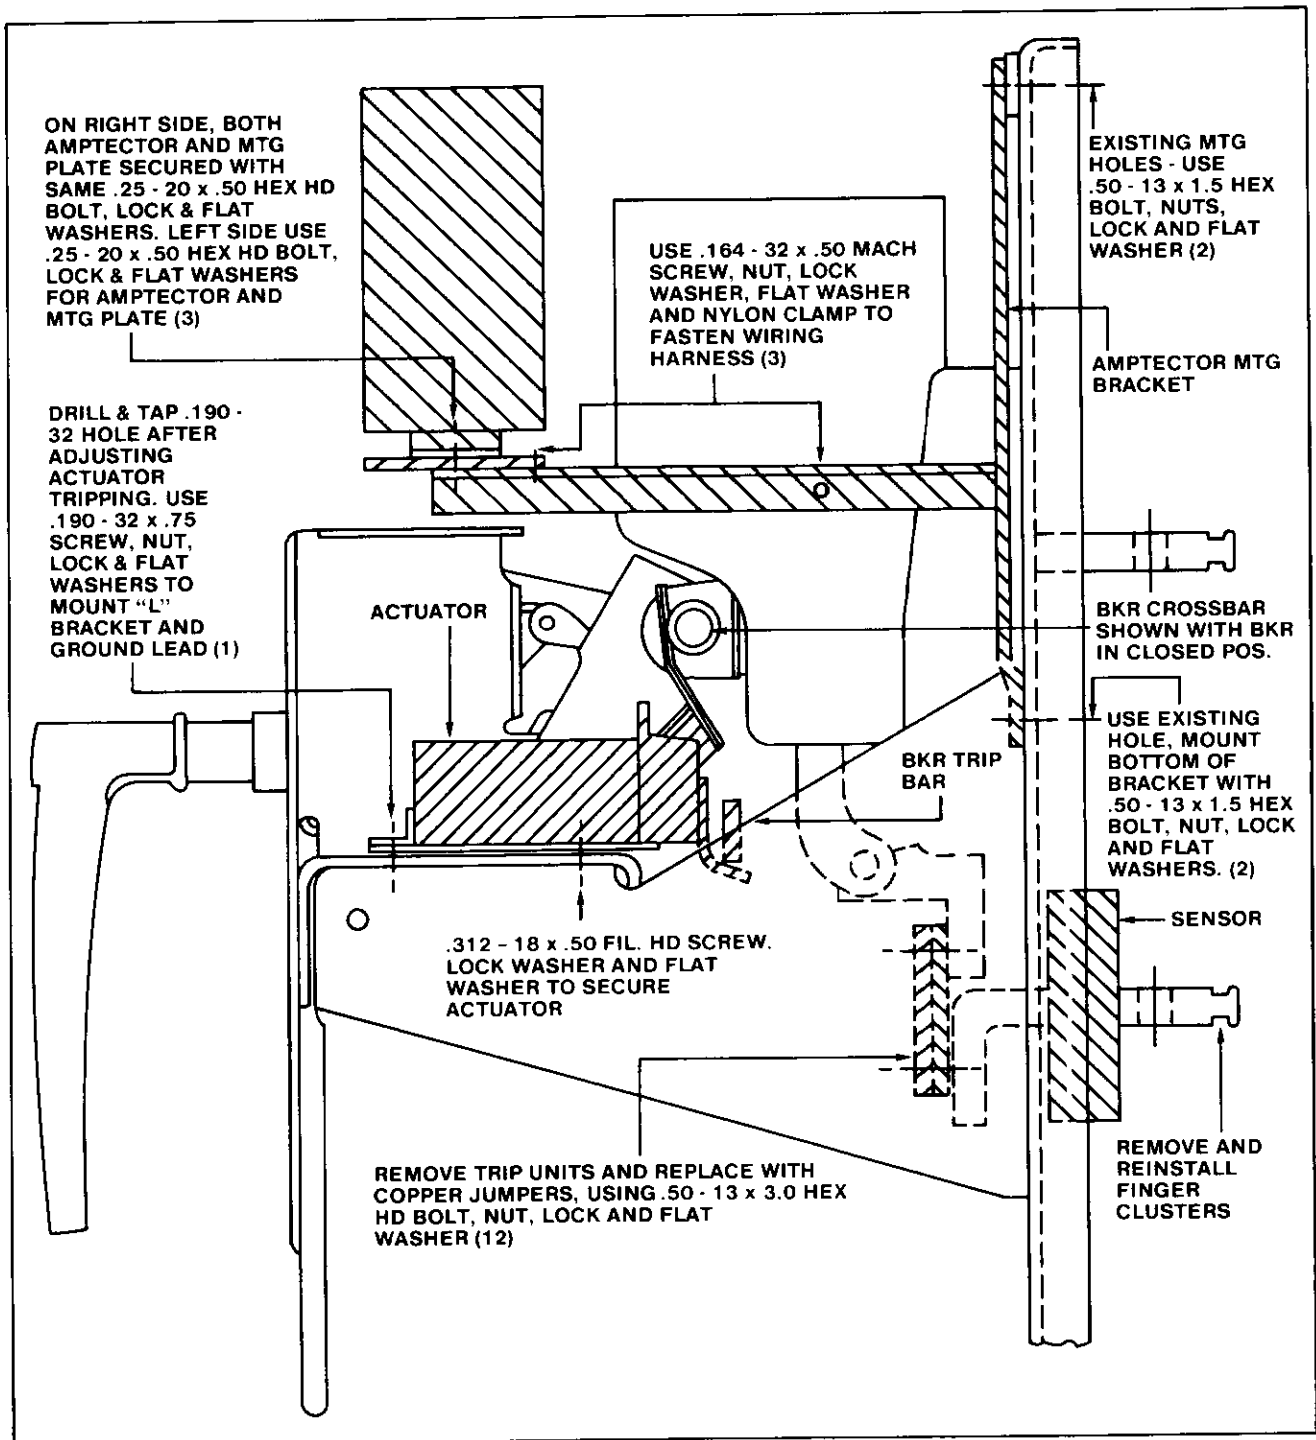

Fig. 21 Right Side View of DB-50
- B. Familiarize yourself with the right hand side view of breaker, Fig. 21.